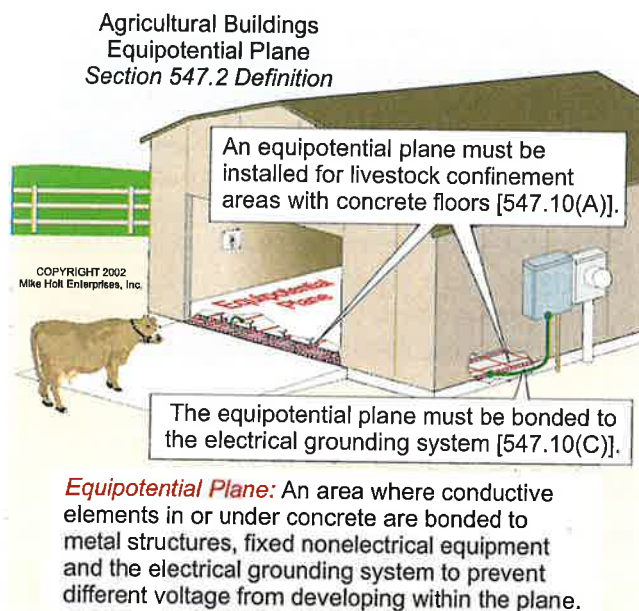

Figure 250-19
- Agricultural Building Equipotential Planes, 547.9 and 547.10. **Figure 250-19**